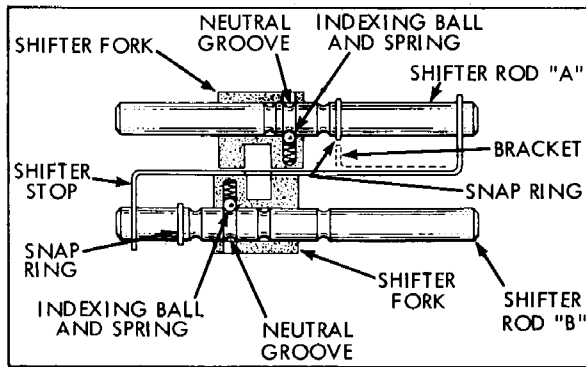
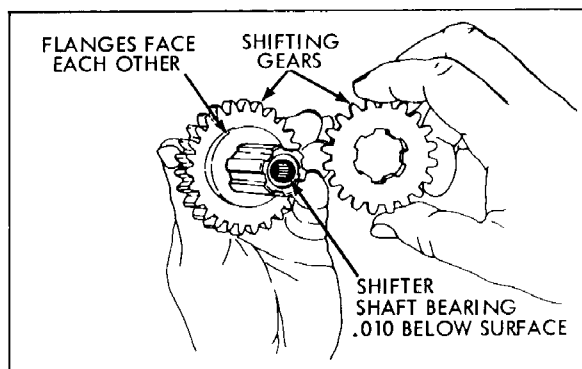
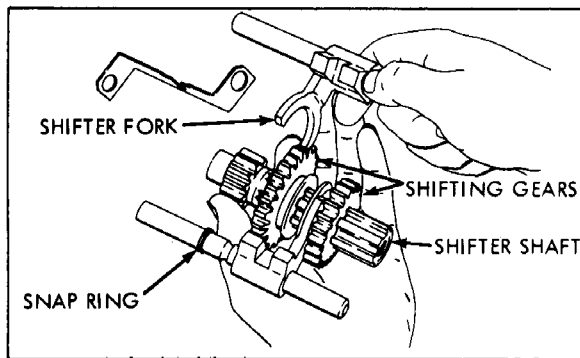

Figure 26 - Four Stop, Four-Speed Transaxle Shifter and Fork Assembly
Figure 29 - Two Flanged Gears onto Shifter Shaft
Figure 30 - Assembling Shift Fork, Gears and Shaft Assemblies
- (a) Reassemble the shifting assembly by following the illustrations beginning with Figure 26 through 31. Pay particular attention to Figure 26 during the reassembly of the shifter forks and shifter rods. Lay the parts on the bench in the same manner as illustrated in Figure 26 on a clean paper or shop cloth. Pay particular attention to the annular grooves in the shifter rods and the snap ring.
- (1) Assemble the shifter forks to the shifter rods as illustrated in Figure 26. The shifter forks are interchangeable.
- (2) Refer to Figure 26. Slide the shifter fork onto the shifter rod until it comes to the hole with the indexing ball and spring. With a flat blade screw driver press the indexing ball into the hole and move the shifting fork completely onto the shifter rod.
- (3) Move the shifting fork to the Neutral position. The neutral groove is the second groove from the shortest end. This neutral groove can be seen through the hole in the shifter fork. See Figure 26. The arrow from the words "Neutral Groove" is passing through the hole for viewing.
(b) Assemble the two flanged gears onto the shifter shaft. (Figure 29) Note that the large gear is placed on the shaft first with the flange side toward the needle bearing in the end of the shifter shaft. Slide on the smaller gear with the flange toward that of the larger gear. (Figure 29, 30).
(c) When assembling the shifter fork and rod to the flanged gears on the shifter shaft, Figure 30, that shifter fork which is on shifter rod "A" always engages in flange in the larger gear. To determine which is shifter rod "A" compare the parts to illustrations. Figure 26. Hold the shifter shaft in the hand as illustrated (Figure 29 during assembly).